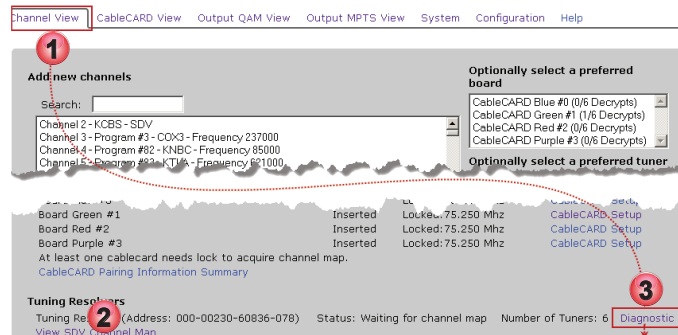

Figure 13-3: Access Tuning Resolver Diagnostic Page
1. Click the **Channel View** tab if it isn’t already selected, Figure 13-3.